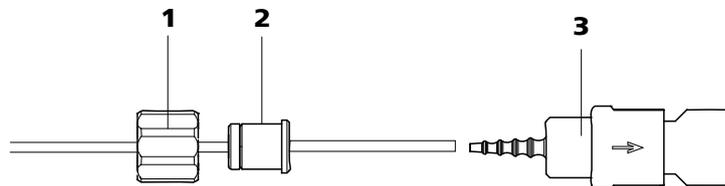

Figure 29 Install pump tubing connection with filter
- **Case A:** a 6.2744.180 pump tubing connection **with filter** (see Figure 29, page 52) or